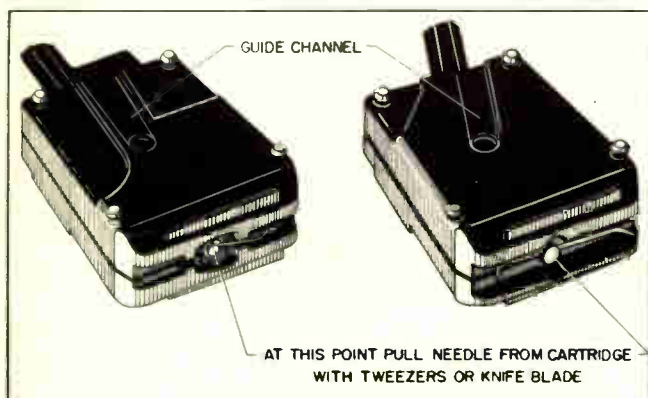

Figure 3
2. Gently remove the needle by pulling straight out, using tweezers or a knife blade under the heel of the needle. See figure 3.